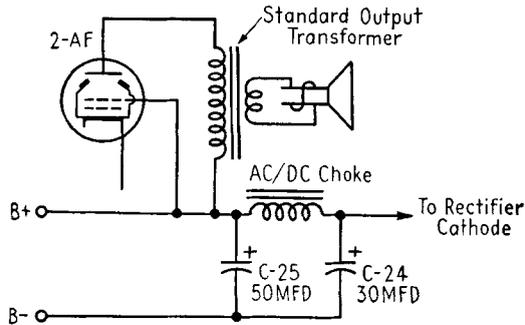

FIG. 18-31. Replacing a hum-bucking-type output transformer, method 3.
3. Use the circuit of Fig. 18-31. This replaces the filter resistor with a small choke. This method is satisfactory, provided that there is room in the receiver to mount the choke.